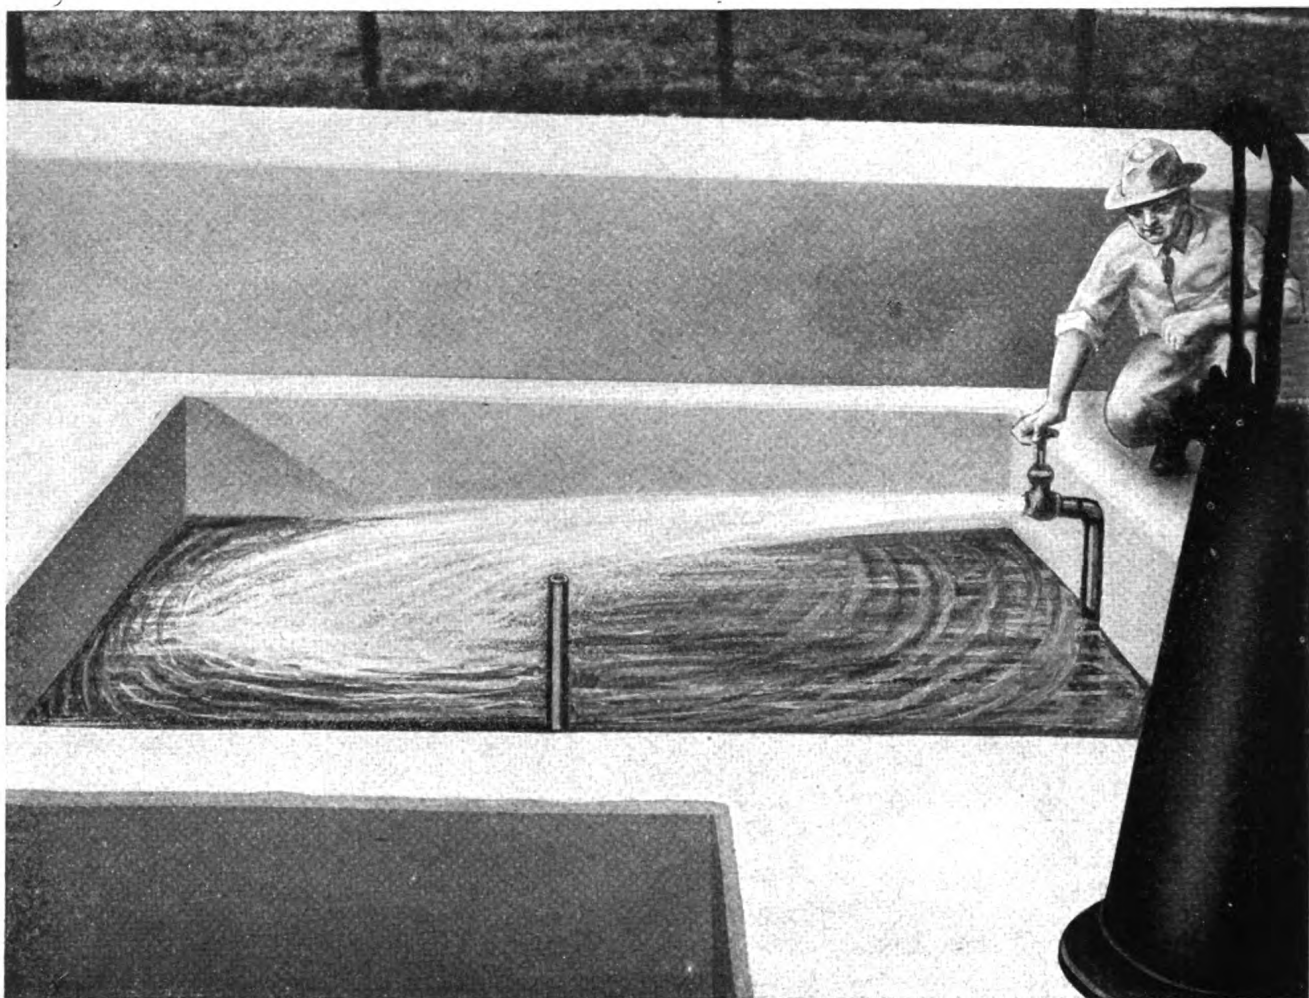

Figure 46. Using blowoff or aspirator for cleaning submerged grids.
(1) Open valve, creating aspirator effect; when air rushes through pipe grid, it carries some moisture from orifice openings. (See fig. 46.) Combination of air and liquid scours upstream face of orifices on inside diameter of pipes in grid.
(2) Close valve quickly to bump aeration tank with sudden rush of air through pipe orifices. This blows off accumulated organic matter lodged over orifice on outer edge of pipe grid, thus eliminating some clogging without draining tank.